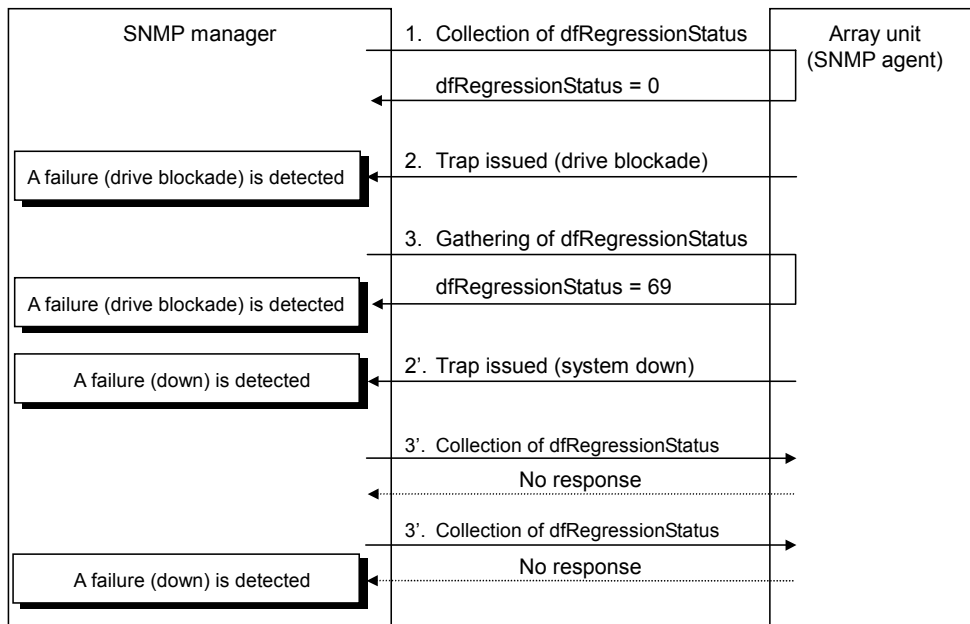

Figure 5.11 SNMP Manager TRAP Response Failure Detection
2. If an error occurs that results in a trap, the subsystem reports the error to the SNMP manager. This trap normally allows the user to detect subsystem failures immediately when they occur; however, the UDP protocol used cannot assure that the trap is correctly reported to the SNMP manager. If a controller goes down, the systemDown trap may not be issued (Figure 5.11).